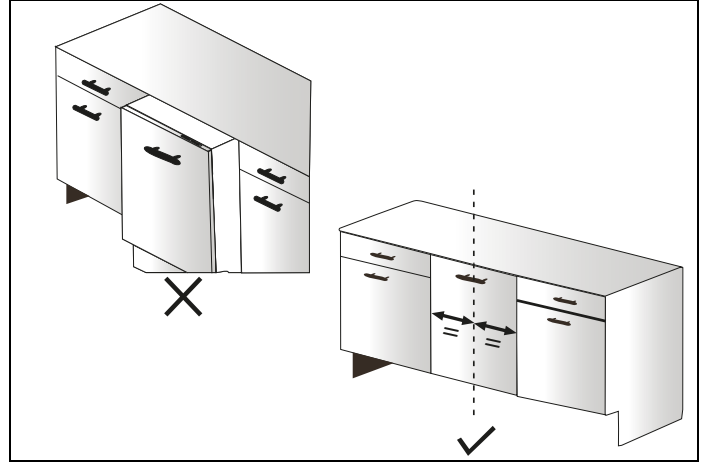

Fig. 30
11) The dishwasher must be placed centered and correctly as shown in the Fig. 30 .